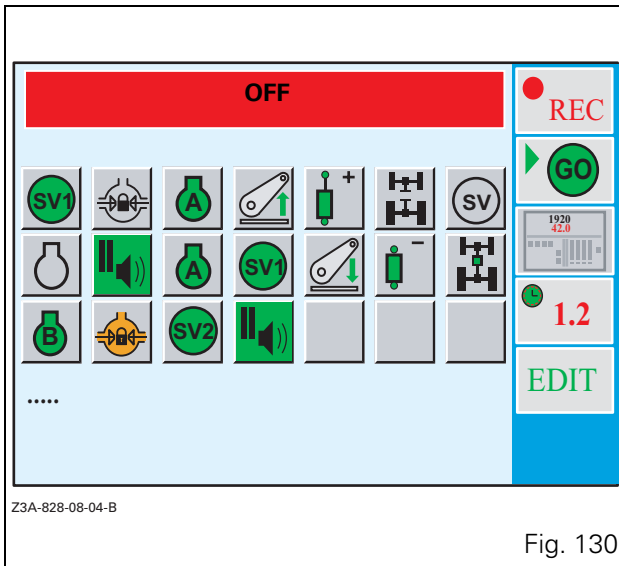
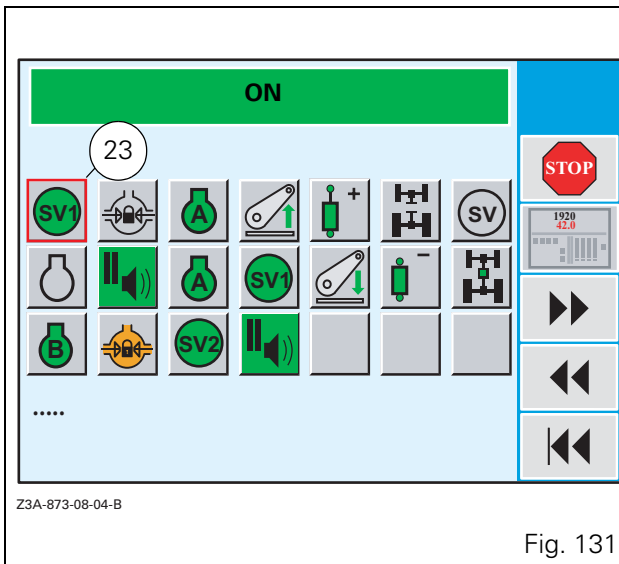

Fig. 130
Fig. 131
- Press the key «₂ (GO) when the window (Fig. 130) is open. A new window is displayed (Fig. 131).
The first icon (first action) is outlined in red (23 Fig. 131).